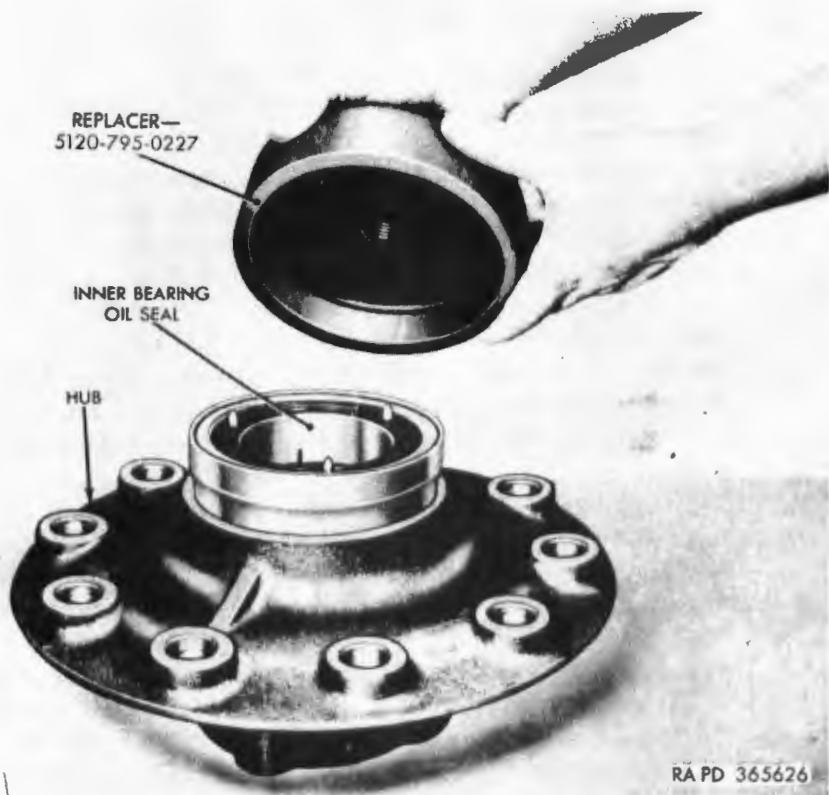

Figure 224. Installing inner bearing oil seal in hub assembly.
those on new stud and carefully drive stud into hub. Insert inner bearing cone (M) into inner bearing cup (L-4) and press new inner bearing oil seal (N) into hub assembly (L) using replacer 5120-795-0227 (fig. 224).
- (2) If inner bearing spacer (P) was removed from supporting arm with shaft and spindle assembly (Q) at disassembly, heat a new spacer in an oil bath and shrink into place on spindle of arm assembly. Carefully slide hub assembly (L) with inner bearing cone (M) and inner bearing oil seal (N) onto spindle and install outer bearing